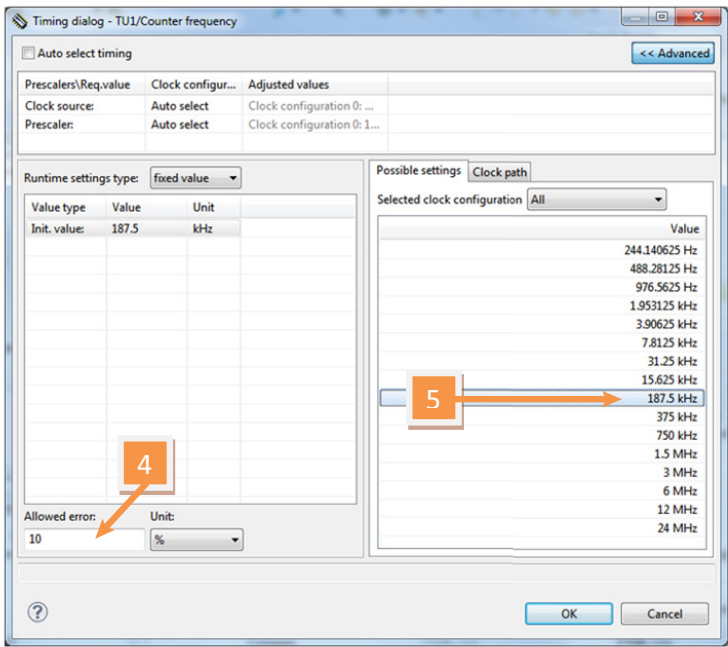

Figure 24. Component TimerUnit\_LDD Timing dialog—select Input Frequency
- d) Set the Allowed Error value at 10% (see Figure 24).